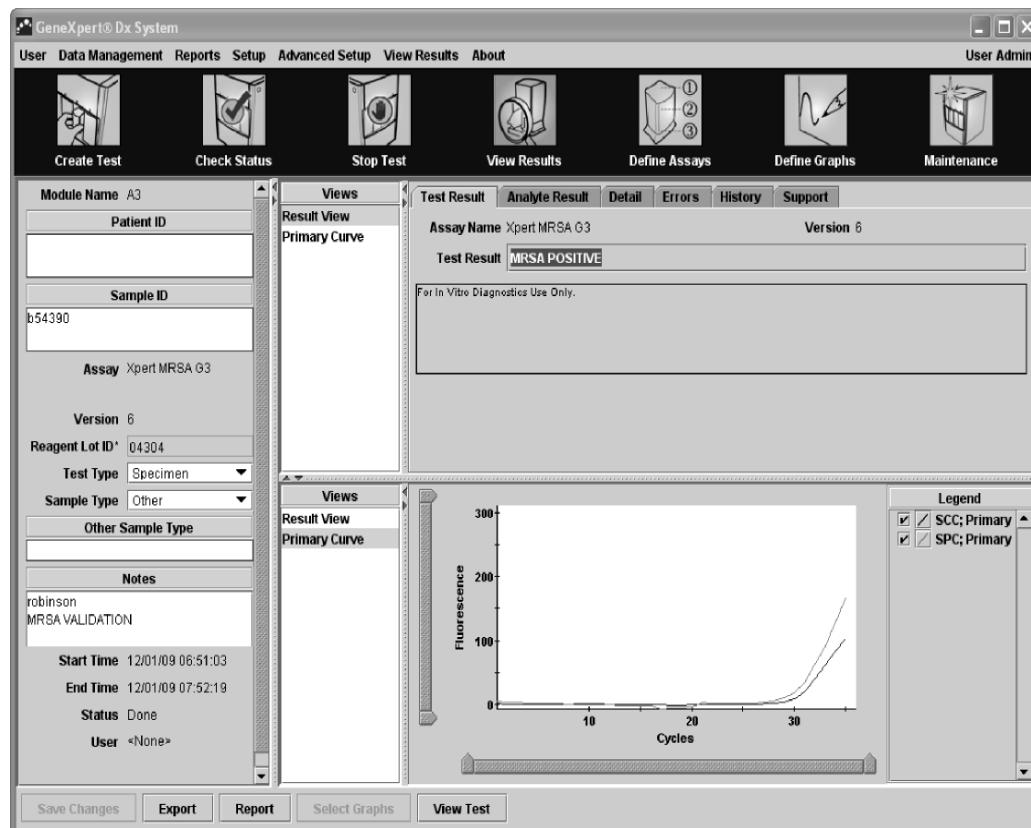

Figure 5-22. GeneXpert Dx System—View Results window (Detail and Admin view)
1. In the GeneXpert Dx System window, click View Results on the menu bar. The View Results window appears (Figure 5-22).
Figure 5-22 shows a View Results window for Detail users and the administrator.